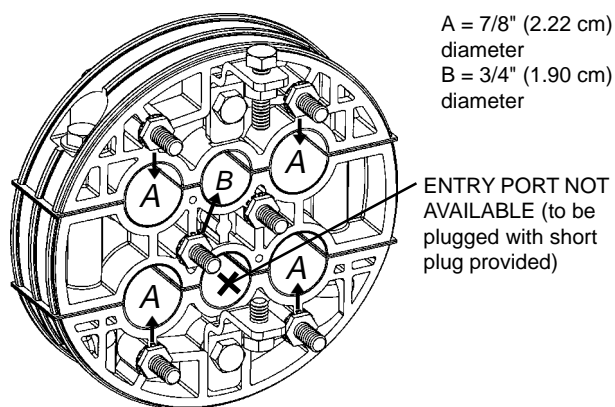

FIGURE 2 - DIAGRAM OF END PLATE
3.02 Because of the position of the lower Torque Bar, each Three-Section End Plate will accept up to five cables; three in the top seam and two in the bottom seam. (Figure 2) The arrows indicate the ground inserts for each cable entry port.